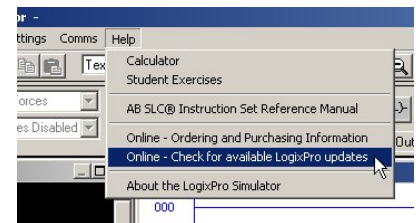

Figure 2
- Drop down the Help menu and select Online – Check for available LogixPro updates as shown in Figure 2.